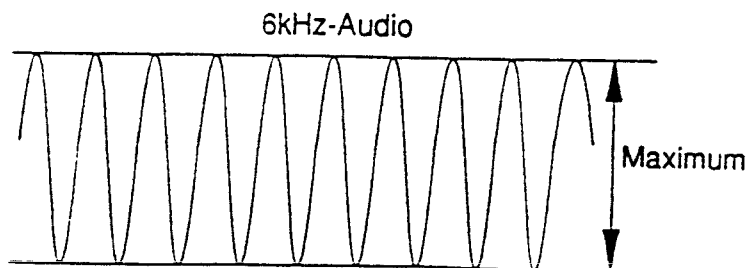

Fig. M6
2. After confirming on the oscilloscope that a 6kHz audio signal is being output by playing back F6-N test tape, adjust the azimuth adjustment screw [B] so that the AC voltmeter's reading or oscilloscope waveform is brought to its maximum level.(Refer to Fig. M6)